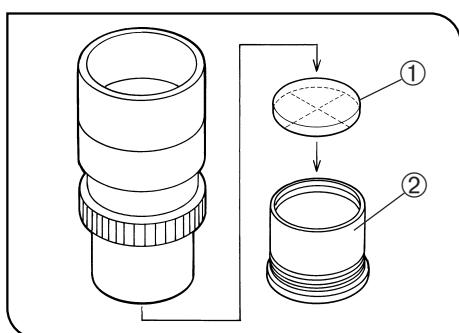

Fig. 20
(Fig. 20)
Following Fig. 20, turn the built-in micrometer mounting frame ② counterclockwise to remove it from the eyepiece, and place a micrometer disk ① into the mounting frame so that the surface with indication faces down.